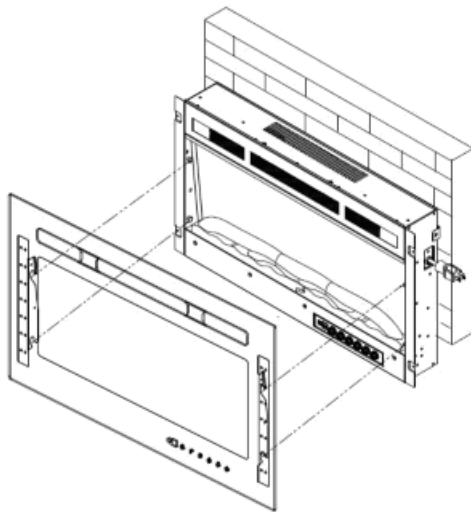

Fig.7
- H. Place the front panel lock the appliance. Fig.7